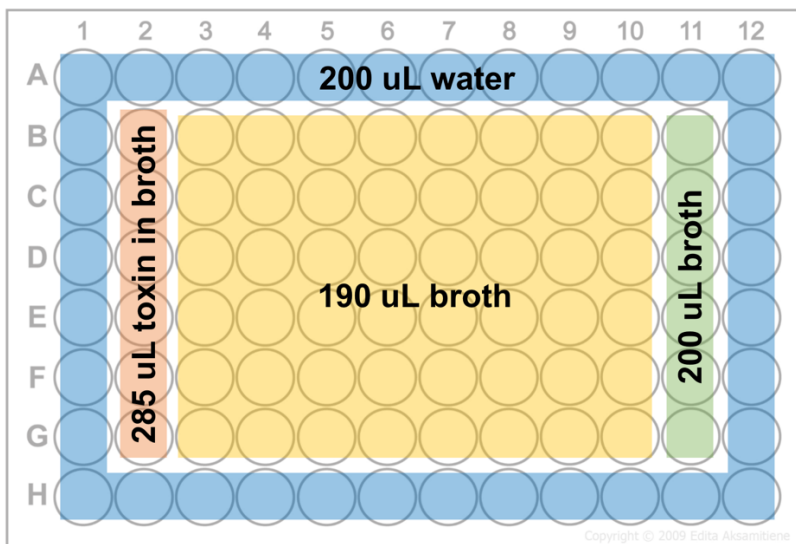

Figure 1. Step 3.1 well plate filling schematic.
3.1. Fill the wells according to figure 1, vortexing the broth with toxin before adding. Rows B through G are used to run toxicity tests. Rows B through G may each have a different toxin.